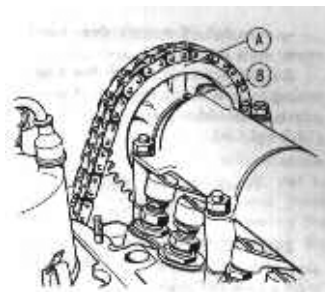

Fig 32.
- Rotate the crankshaft clockwise to align mark A (Fig. 32) on the sprocket with mark B on the camshaft housing; in this case the piston of the No. 4 cylinder will be on TDC at the end of the compression stroke, and both valves will be closed